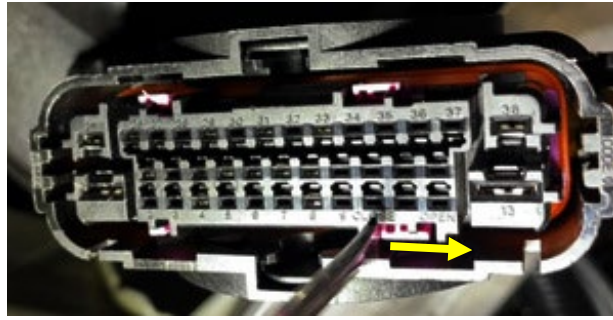

Figure 13
11. Use a pick to slide the large locking tab of the HCU connector from “CLOSE” to “OPEN” (Figure 13).